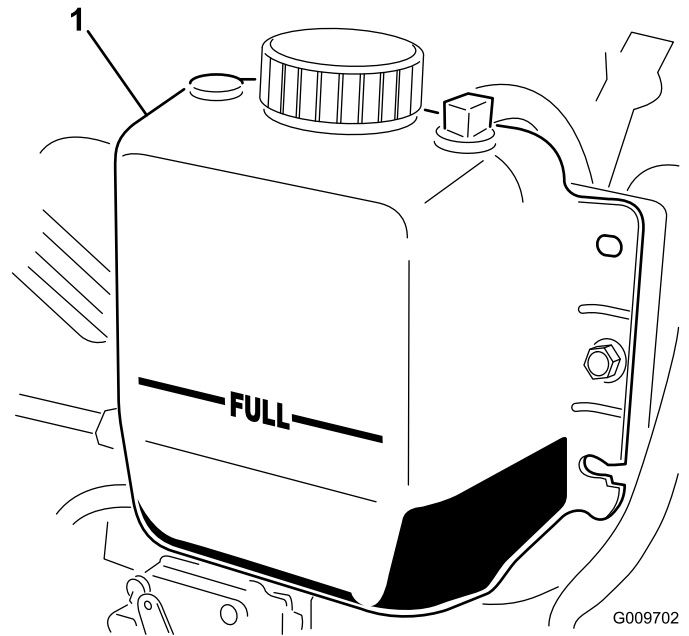

Figure 18
2. Check the coolant level in the radiator. The radiator should be filled to the top of the filler neck and the expansion tank filled to the Full mark (Figure 18).